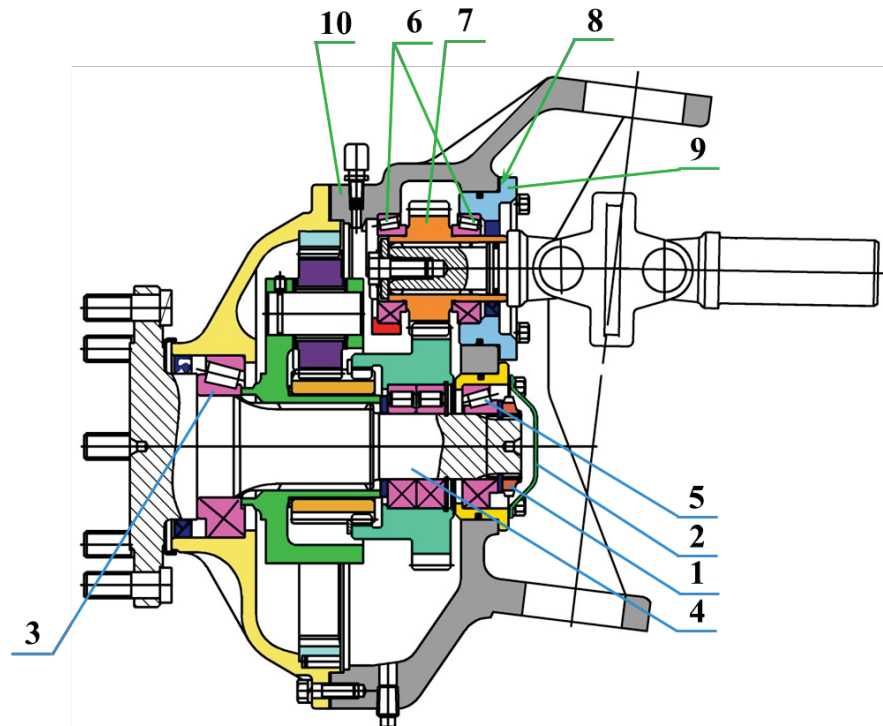

Figure 8.46
### 1. Bearings of the Hub Reduction gear Driving Pinion (3): (fig.8.46)